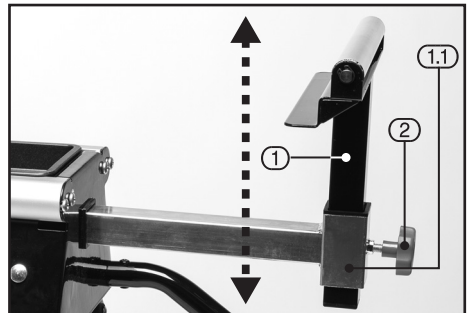

FIG.8
8.4 ASSEMBLE SUPPORT ROLLERS – FIG.8
- Place the roller arms (1) into the roller bar supports (1.1), slide up and down to the desired location and secure in place with the locking knobs (2).